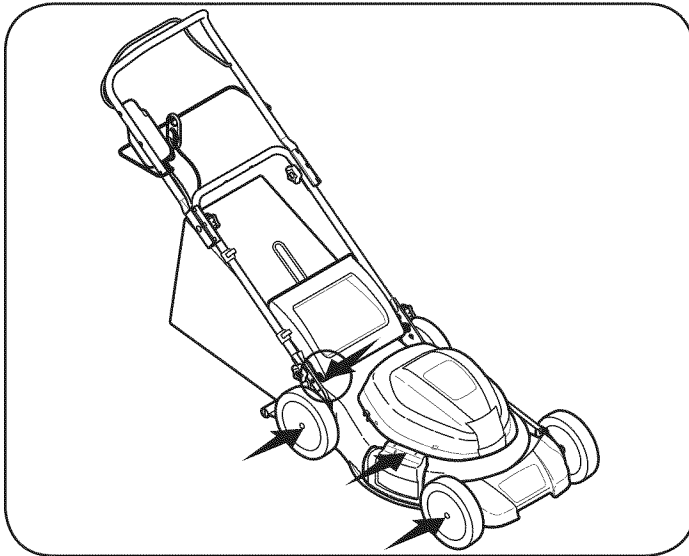

Figure 12
1. Lubricate the wheels at least once a season with light oil (or motor oil). If wheels are removed for any reason, lubricate surface of the pivot arm and inner surface of the wheel with light oil. See Figure 12.
2. Lubricate the torsion spring and pivot point on the rear discharge door and side mulch plug periodically with light oil to prevent rust. See Figure 12.